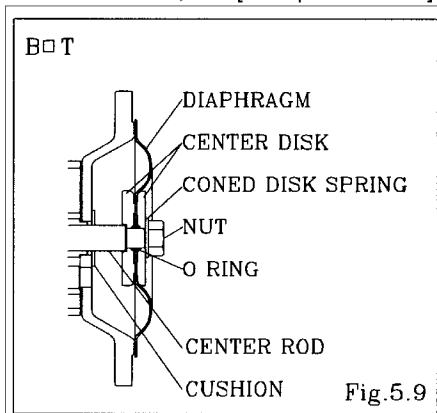

Fig.5.9
- Keep the convex side to the outside (cf. Fig.5.9).
- Put the O rings to both sides of the diaphragm. (cf. Fig.5.9)